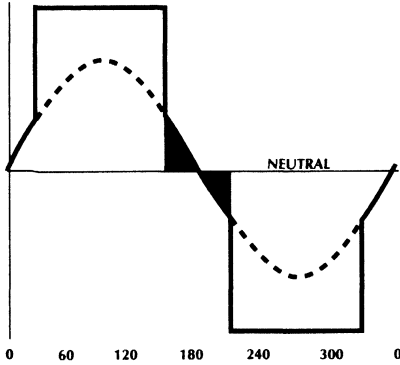

Figure 2. Typical Motor Phase Waveform with Back-EMF Superimposed (Ideal Commutation).
The ML4510 contains a patented back-EMF sensing circuit which samples the phase which is not energized (Shaded area in figure 2) to determine whether to increase or decrease the commutator (VCO) frequency. A late commutation causes the error amplifier to charge the filter (RC) on pin 20, increasing the VCO input while early commutation causes pin 20 discharge. Analog speed control loops can use pin 20 as a speed feedback voltage.